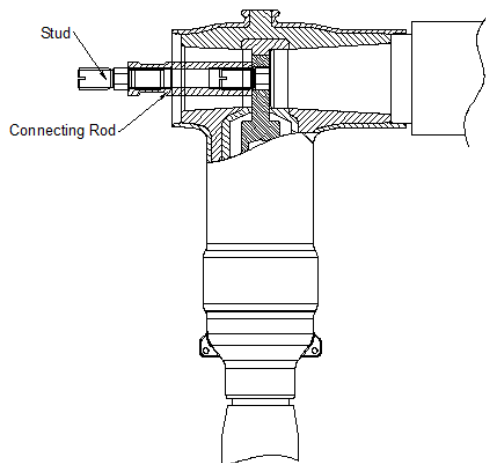

Fig.13
**Step 3.** Tighten the rod and stud assembly to approximately 50-55 Nm, using a 22 mm open end wrench. (See Fig. 13) (Slotted outwards)